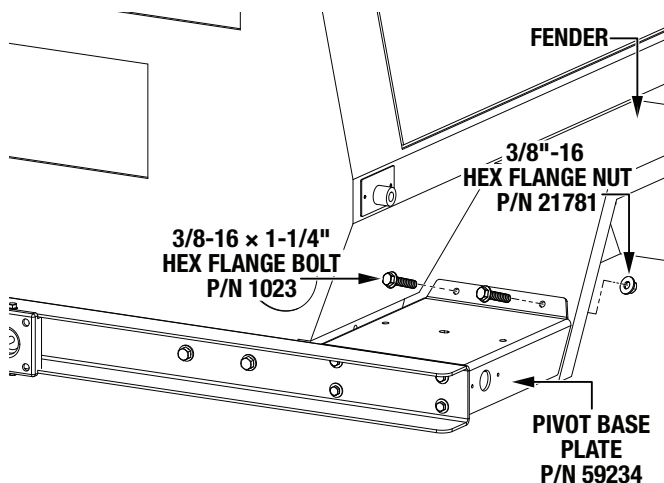

Figure 16. Secure Pivot Base Plate to Fender
3. Insert two 3/8-16 × 1-1/4" hex flange bolts (P/N 1023) through the new holes in the fender with two 3/8"-16 hex flange nuts (P/N 21781), and tighten securely. See Figure 16.